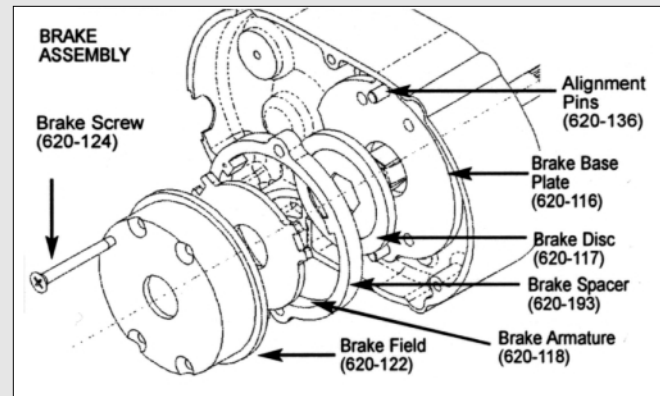

Figure 8B
- Refer to Figure 8B and disassemble the brake. Depress and hold the field assembly (620-122) while removing the four brake screws (620-124). The field assembly is under spring pressure and will spring-out if not held. During disassembly, note there is a small leaf spring (620-121) on the brake driver (620-119) and this will spring-out when the brake disc (620-117) is removed. Examine the base plate (620-116), hex driver (620-119), brake disc (620-